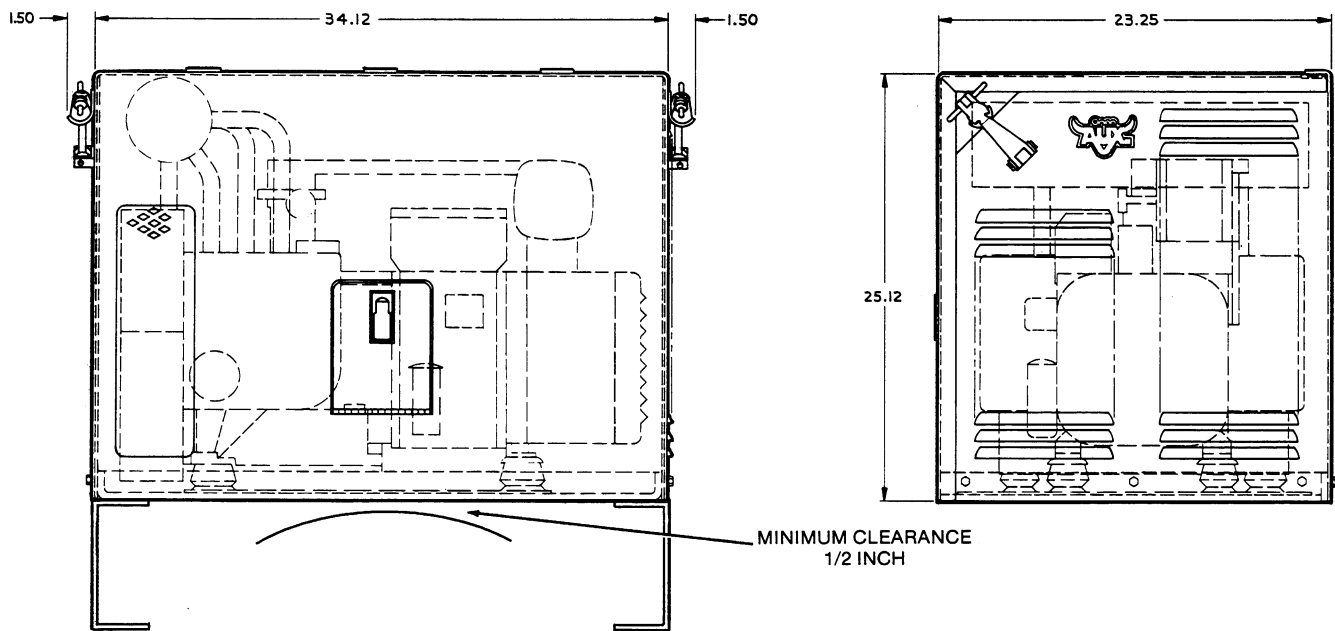

FIGURE 6. OVER-THE-RAIL MOUNTED COMPARTMENT INSTALLATION DIMENSIONS
1. Position the housing baseplate over the truck frame rails in the desired mounting location and check for adequate clearance (over-all compartment dimensions are shown in Figure 6). Be sure to allow adequate clearance between back of sleeper cab and rear wall of generator set compartment for wiring connections.